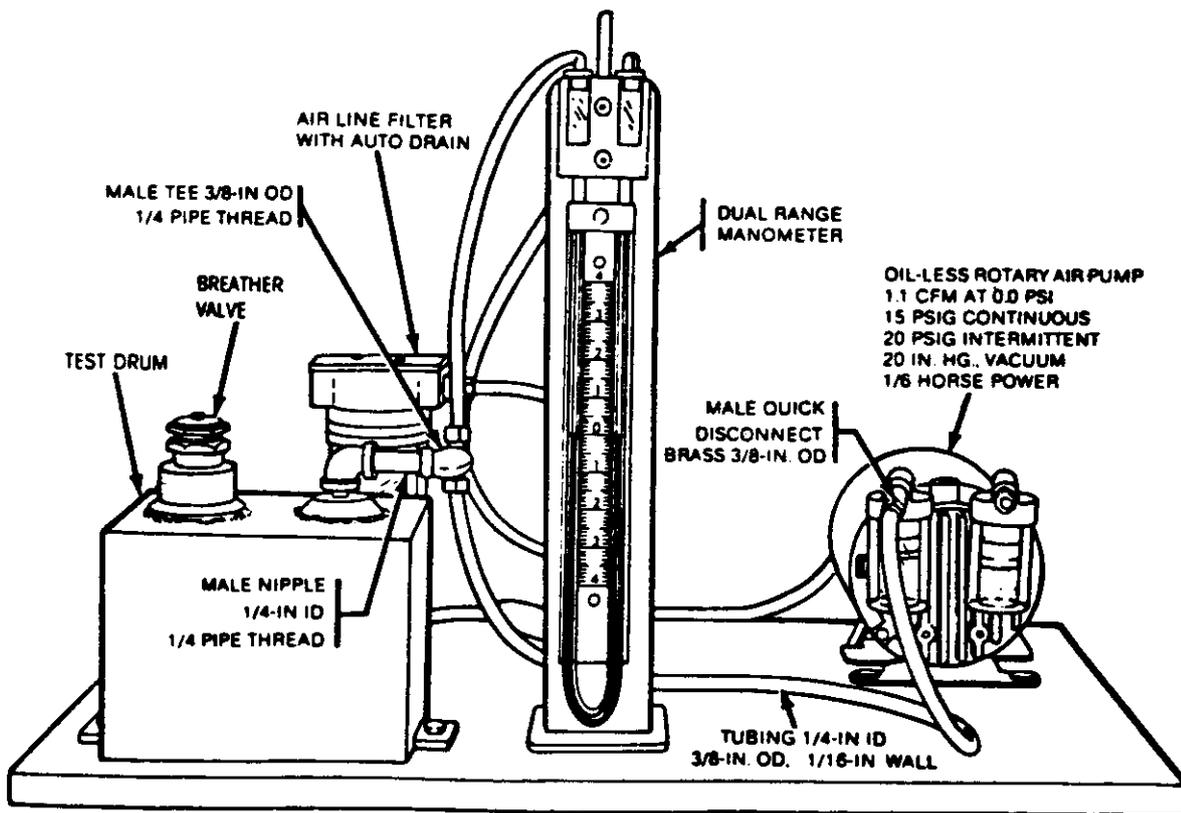

Figure 6. - Fabricated Test of Breather Valve, Type II container.
- e. Pressurize Type II container to 3 +/- 1/2 psi. (Fig 6)